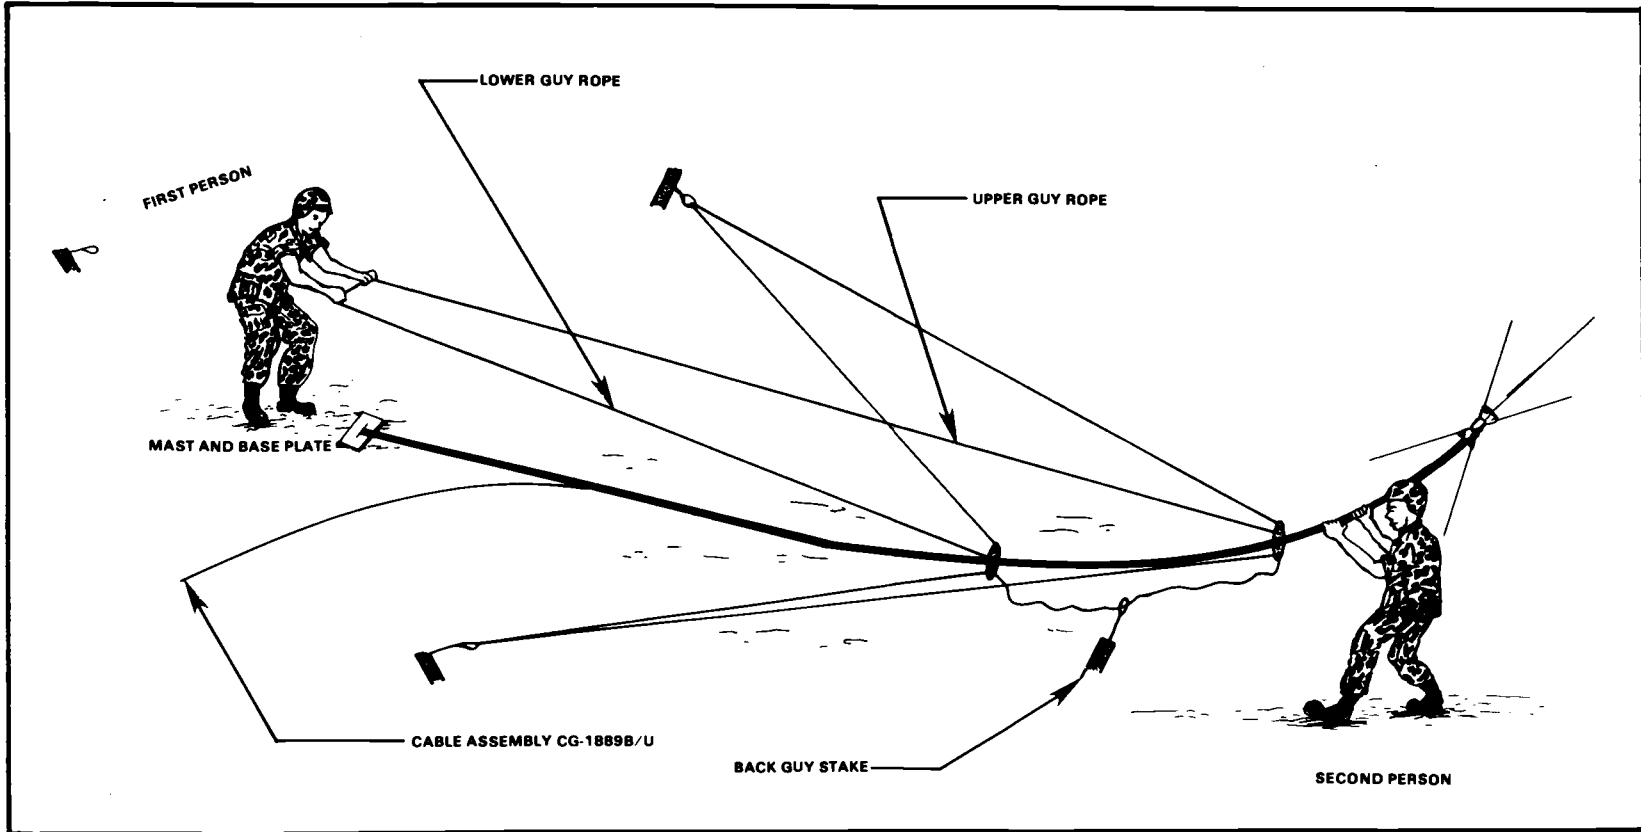

Figure 3-14. Erecting antenna group OE-254/GRC.
- Make sure that the mast assembly is laid out straight and crosses beside one guy stake (the back guy stake, Figure 3-14).
- Lay the two bottom (upper and lower) guys along one of the tightened side guys and adjust them to the same length. Attach the bottom guy ropes to the back guy stake (Figure 3-14).
- (1) Installer—near the baseplate assembly in line with the far guy stake holding the free guys (Figure 3-14).
- (2) Assistant—at the top holding the antenna at shoulder height.